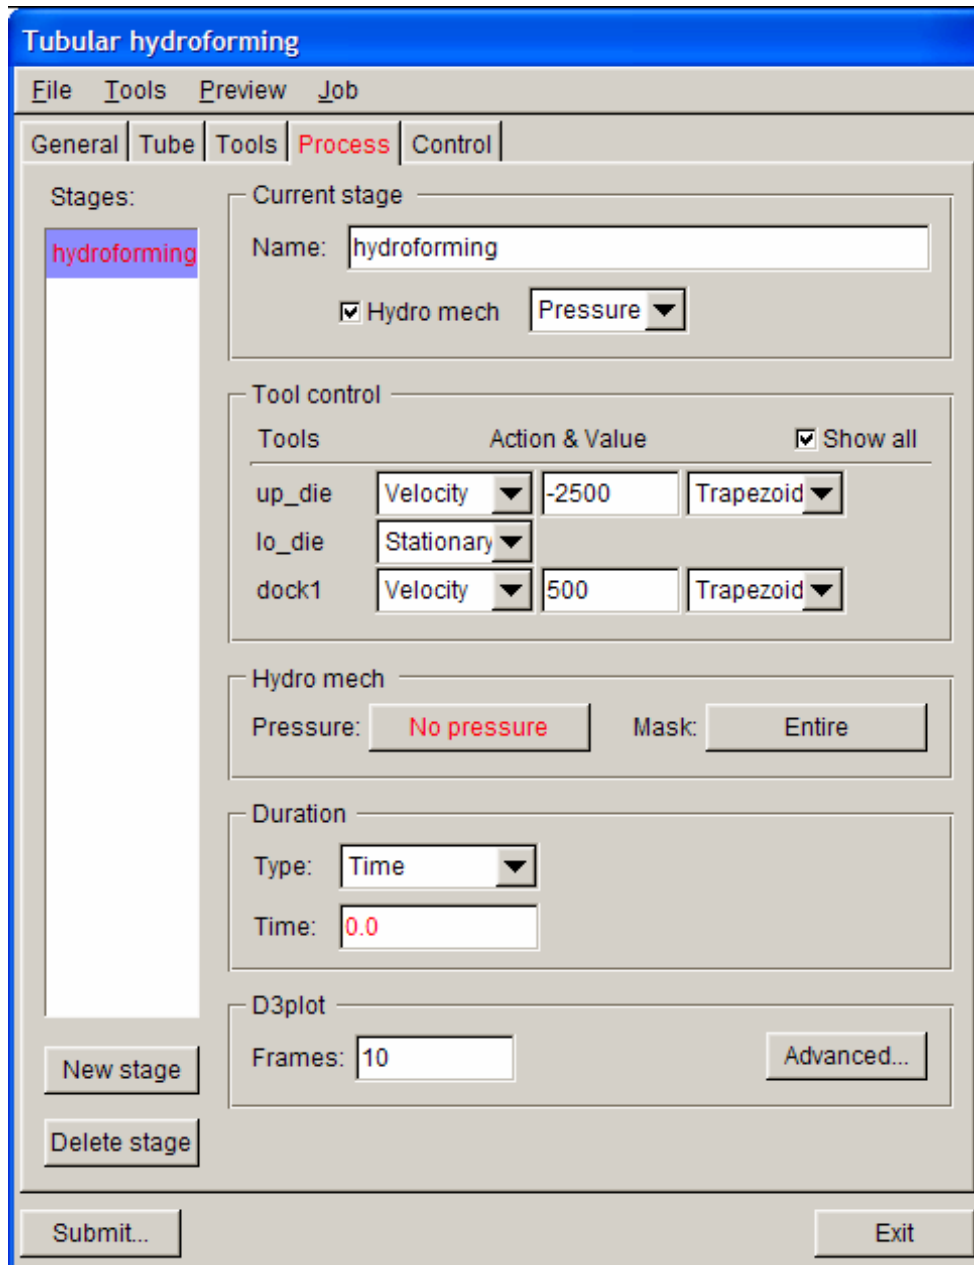
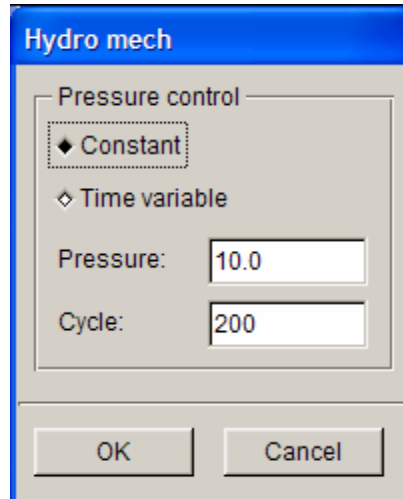

Figure 3.32 Hydroforming process interface
Figure 3.33 Hydro mech dialog box
2. Now, only the hydroforming process is available in the process definition interface. Toggle on the **Show all** option illustrated in Figure 3.32 to display all
- In hydroforming process, the **lo_die** remains stationary through out the forming process. Set the velocity of **up_die** to **-2500** (mm/s) so the tool is moving downward along the working direction. Both **dock1** and **dock2** are moving with the velocity of **500** (mm/s) along their corresponding working direction. See Figure 3.32.
- Click on the **No Pressure** button illustrated in Figure 3.32 to display the HYDRO MECH dialog box illustrated in Figure 3.33. In pressure control field, select **Constant** option. Then, type in constant pressure of 10 (N/mm²).